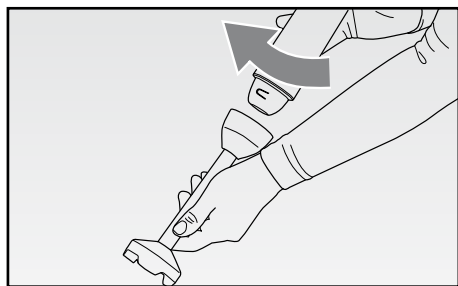

Fig. 2
- Mount the motor body (D) onto the shaft (G): put the two parts close, by aligning the symbol of "open lock" on the shaft with the arrow on the motor body and rotate the latter clockwise until it clicks in place (Fig. 2).
- The hand blender (G) is suitable for preparing sauces, soups, mayonnaise, and milkshakes.
- Mount the motor body (H) onto the wire whisk (H): put the two parts closer, by aligning the symbol of the "open lock" on the whisk with the arrow on the motor body and rotate the motor body until it clicks in place (Fig. 2). The wire whisk (H) serves to whip cream and egg whites and for soft mixtures.
- Mount the motor body (D) onto the potato masher (L): put the two parts close, by aligning the reference on the fitting (I) with the arrow on the motor body until it clicks in place (Fig. 2).